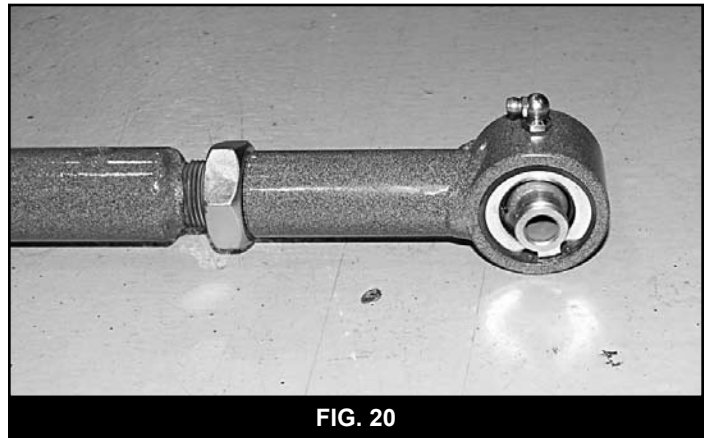

FIG. 20
54. Thread the provided jam nut, followed by the provided assembled flex end (01374) onto the upper control arm (01373). Install the provided grease fittings in the flex ends (Fig 20). Adjust the length of the control arm so that it is 28-3/8" from center of eye to center of clevis (Slide bolt through clevis end to get this measurement).